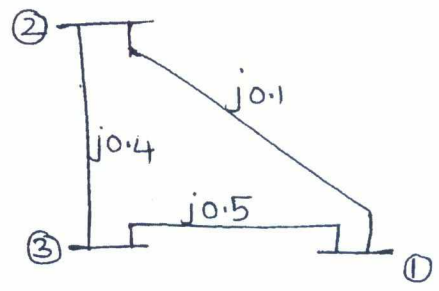

Fig. Q2(c)
- c. For the power system shown in Fig. Q2(c) with Bus 1 as reference and line data impedances in p.u as shown. Compute Z_{BUS} using building algorithm. Add the elements in the sequence 1 – 2, 2 – 3 and 1 – 3. (07 Marks)